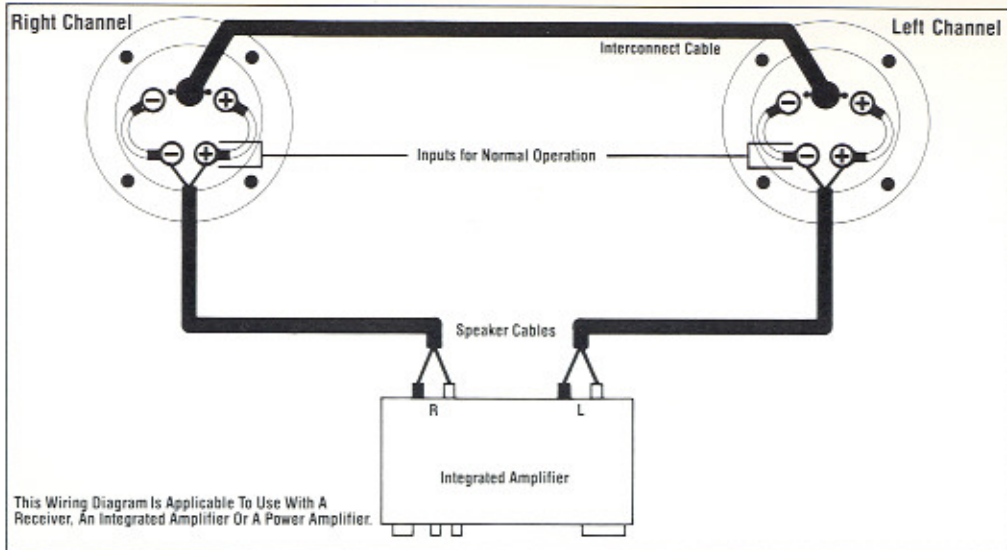

FIGURE 5. Connections for Normal Operation
5. Using whatever speaker cable you have (see the section on "Speaker Hookup Wire"), connect the left channel amplifier outputs to the left speaker, making certain to connect the red or + (plus) output to the red terminal on the speaker. Connect the black or - (minus) amplifier output to the black terminal on the speaker. Using another length of speaker cable, connect the right channel amplifier outputs to the right speaker in the same way. **IT IS IMPERATIVE THAT THE AMP AND SPEAKERS BE CONNECTED IN CORRECT ABSOLUTE PHASE FOR THE SDA-SRS TO FUNCTION PROPERLY.** See figure 5 to check your connections.